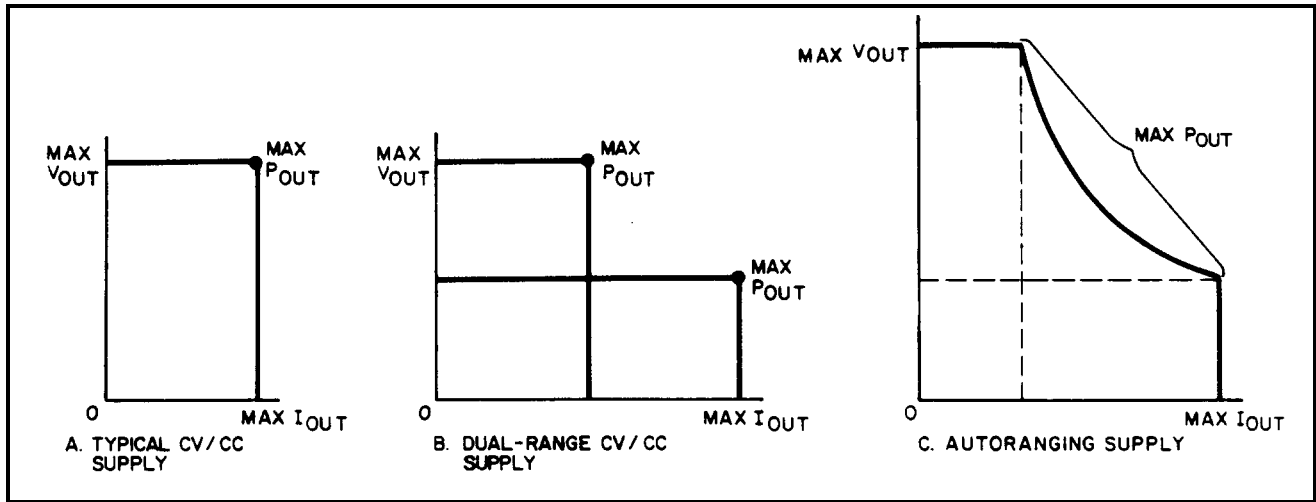

Figure 4-3. Output Characteristics; Typical, Dual Range, and Autoranging Supplies
Primary current is approximately proportional to output power, and POWER LIMIT turns off the PWM when the CONTROL V LIMIT would otherwise allow the unit to deliver more than about 200 watts. This occurs during transient load increases, step increases in CV PROGRAM VOLTAGE and when the combination of the CV PROGRAM VOLTAGE and the CC PROGRAM VOLTAGE calls for more than 200 watts. The power-limit comparator produces the power-limited portion of the unit's output characteristic curve in Figure 4-3 and is the essence of the unit's autoranging characteristic.
2. MAIN BOARD AND CONTROL BOARD ASSEMBLIES ARE SHOWN IN FIGURE 4-3.